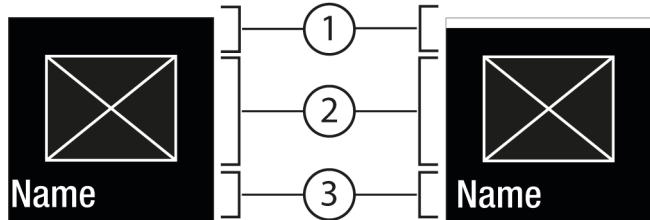
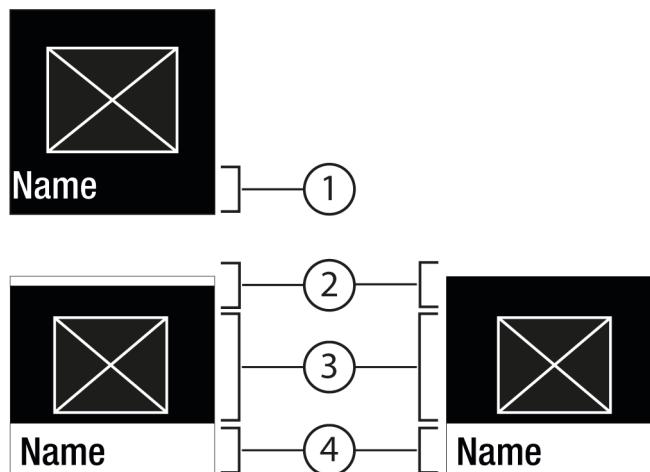

Fig. 7
Fig. 8
- Press Confirm Fig. 6 (2) to open the submenu Fig. 8 (4).
- Set a new value: Press Confirm Fig. 6 (2) to select an active value Fig. 7 (1).
- Back to the menu: Press Confirm Fig. 6 (2) to select the active value Fig. 7 (2).
- Status: On *Fig. 7 (1)* appears briefly in the submenu *Fig. 8 (4)*.